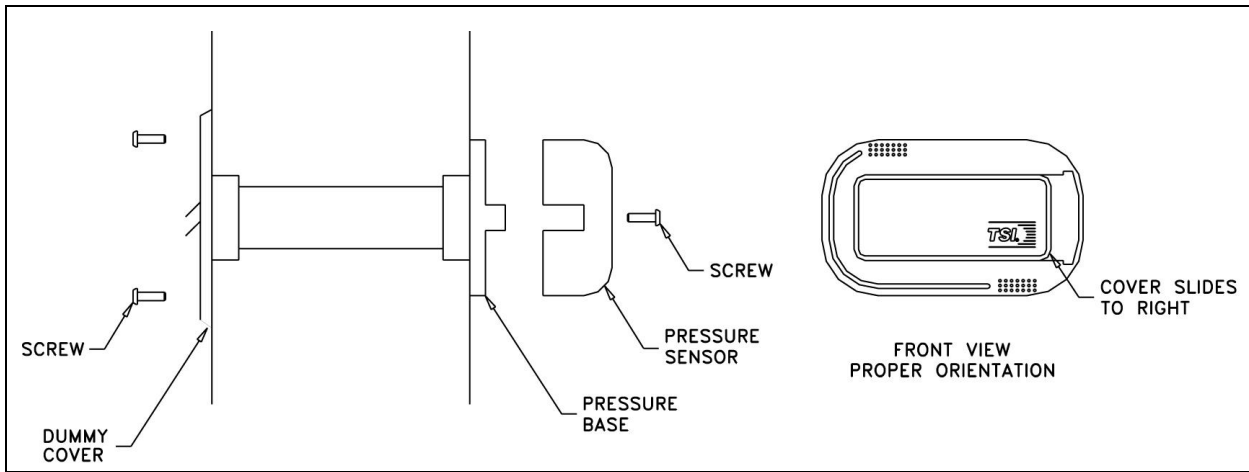

Figure 4: Pressure Sensor Mounting
10. Install and screw the pressure sensor onto the base. Slide cover to the left to hide the sensor. Finished installation should look as shown in Figure 4.